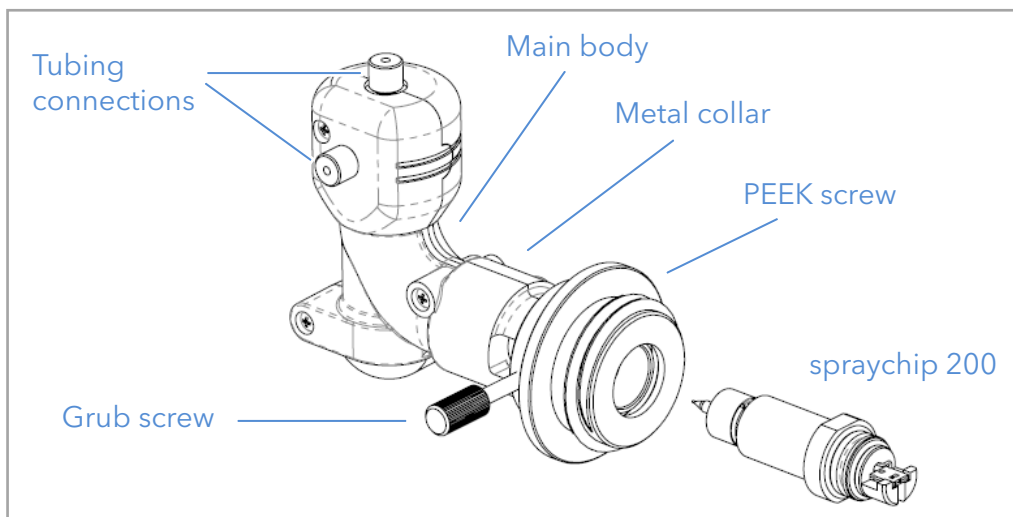

Fig. 11 The Split Flow Interface (SFI)
1. Place the PEEK screw over the metal collar as shown in Fig. 11.